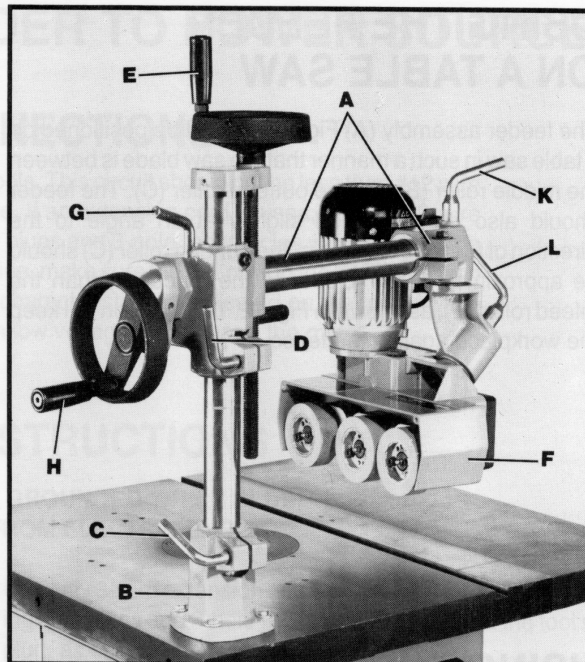

Fig. 10
1. The entire feeder assembly (A) Fig. 10, can be rotated 360 degrees in the mounting bracket (B) by loosening locking lever (C).
2. To raise or lower the feeder assembly (A) Fig. 10, loosen locking lever (D) and rotate handwheel (E).
3. To move the feeder assembly (A) Fig. 10, inward or outward, loosen locking lever (G) and rotate handwheel (H).
4. To adjust the position of feeder (F) Fig. 10, loosen locking levers (K) and/or (L).